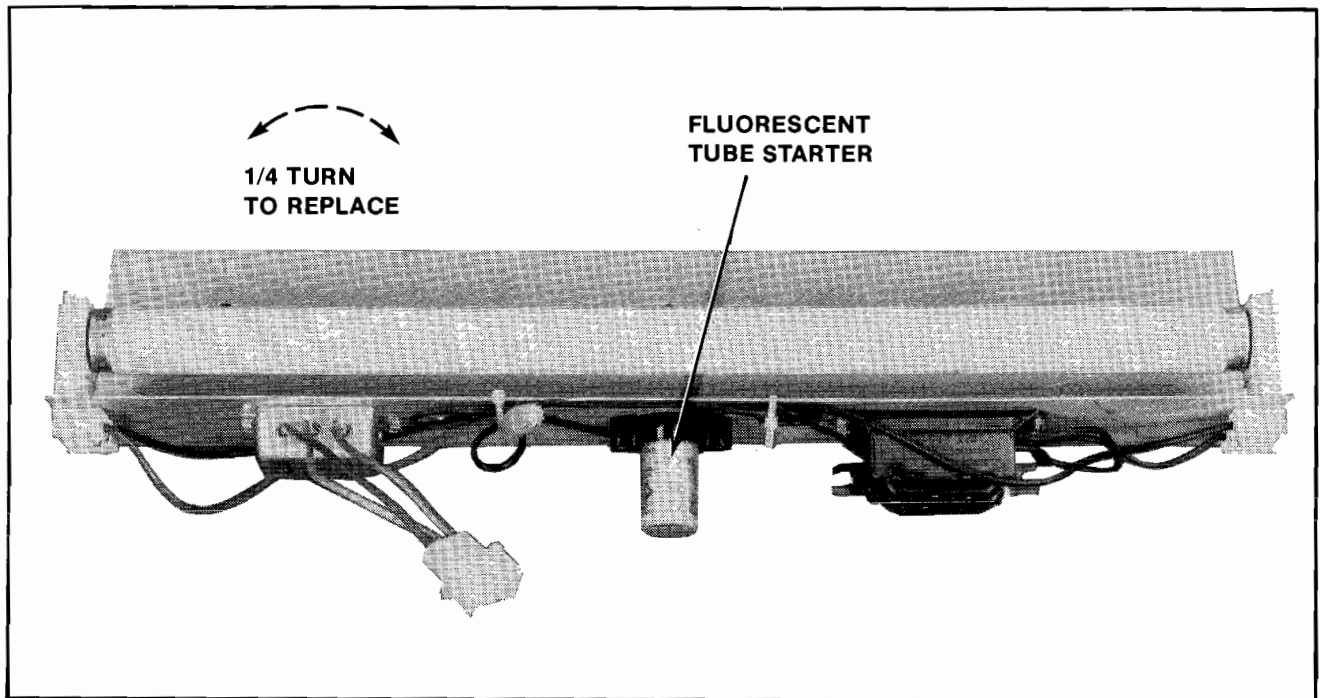

Figure 4-15 Replacing Fluorescent Tube Starter
**WARNING:** If you drop a fluorescent tube and it breaks, IT WILL IMplode! Shattered glass can fly six (6) feet or more from the implosion. Use care when replacing any fluorescent tube.
- Replacing the fluorescent tube starter. See Figure 4-15.
**WARNING:** If you drop a black light tube and it breaks, IT WILL IMplode! Shattered glass can fly six (6) feet or more from the implosion. Use care when replacing any black light tube.
4. Replacing the black light tube starter. See Figure 4-15.